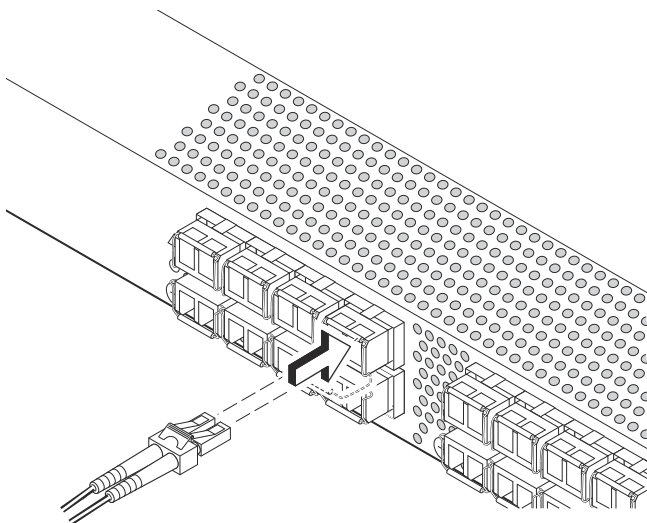

FIGURE 2 Inserting a cable into an SFP+
5. Insert the cable into the transceiver (Figure 2) until it is firmly seated and the latching mechanism clicks.